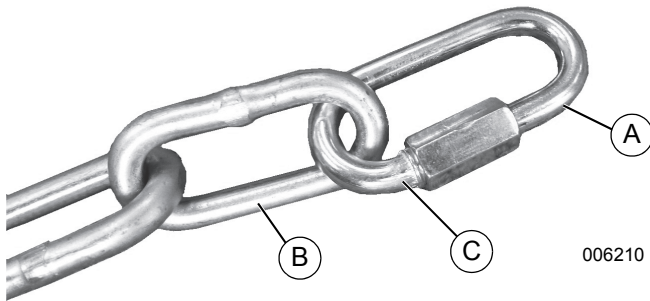

Figure 2-4. Chain Connector
1. See Figure 2-4. Attach chain connector (A) to the end of each safety chain (B) with the shorter side (C) toward the safety chain. Tighten with 10 mm wrench.